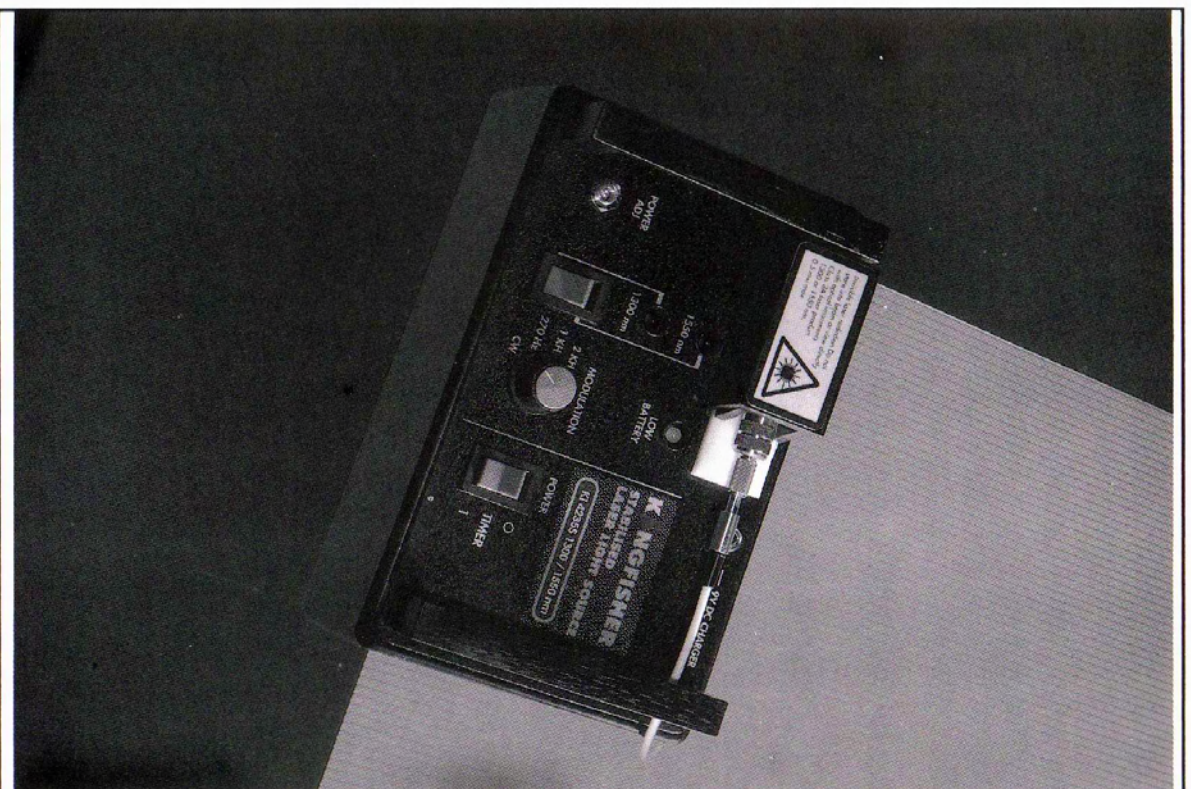

Figure 2
4. Gently open the baseplate by pulling on the top edge. The unit should open easily, and will look like Fig 2